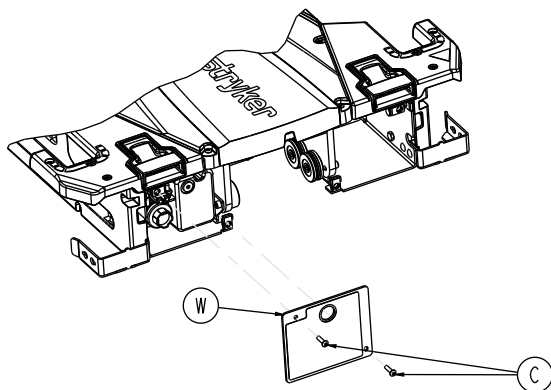

Figure 4 – Remove the trolley rear cover plate
5. Using a T25 Torx driver, remove the two button head cap screws (C) that secure the trolley rear cover plate (W) to the left wing assembly to gain access to the USB port (Figure 4). Save the screws and cover.